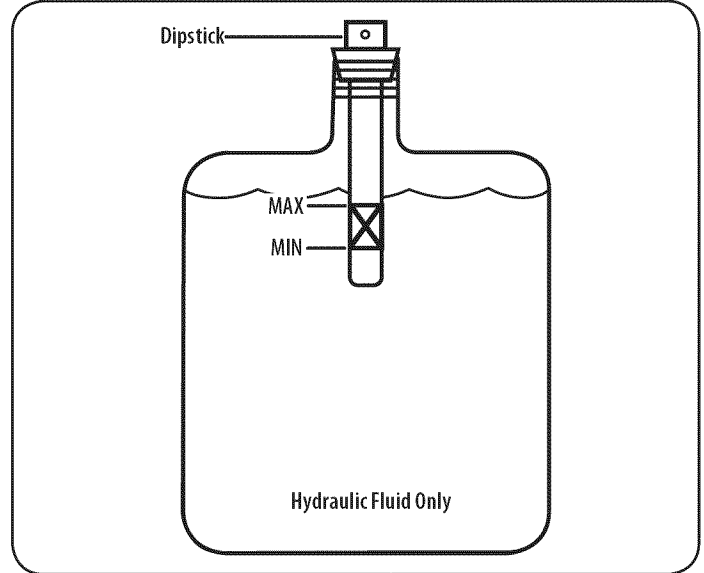

Figure 21
11. If necessary refill the reservoir within range marked on the dipstick. See Figure 21.